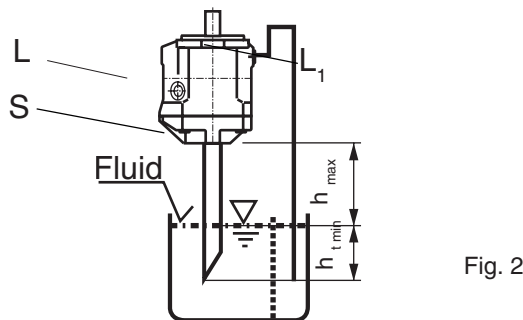

Fig. 2
b) If the minimum fluid level is below the pump mounting surface pipe port "L1", and possibly "S" according to Fig. 2.
For mounting above a tank see fig. 2.